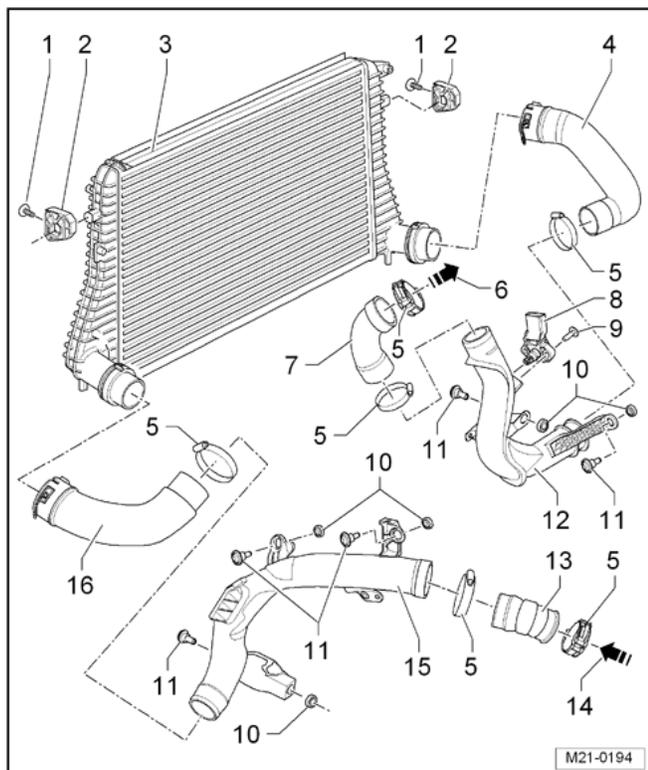

Figure 1
- Remove the original charge air cooler (item 3 in figure 1) from the vehicle.
- Remove the lower charge pressure hoses (items 4 and 16 in figure 1) and clean of any moisture, ice crystal formation or sludge. See Repair Manual Group 21, Turbocharger/G-Charger, Description and Operation, Component Overview, in Elsa.
- Remove cold side charge air pipe (item 12 in figure 1) and pressure hose to throttle valve (item 7 in figure 1).
- Install the cold side charge air pipe (item 12 in figure 1) and connect the charge air pressure sensor -G31- electrical connector.
- Install the revised charge air cooler (item 3 in figure 1) with regulating flap and connect the regulating flap vacuum hose.